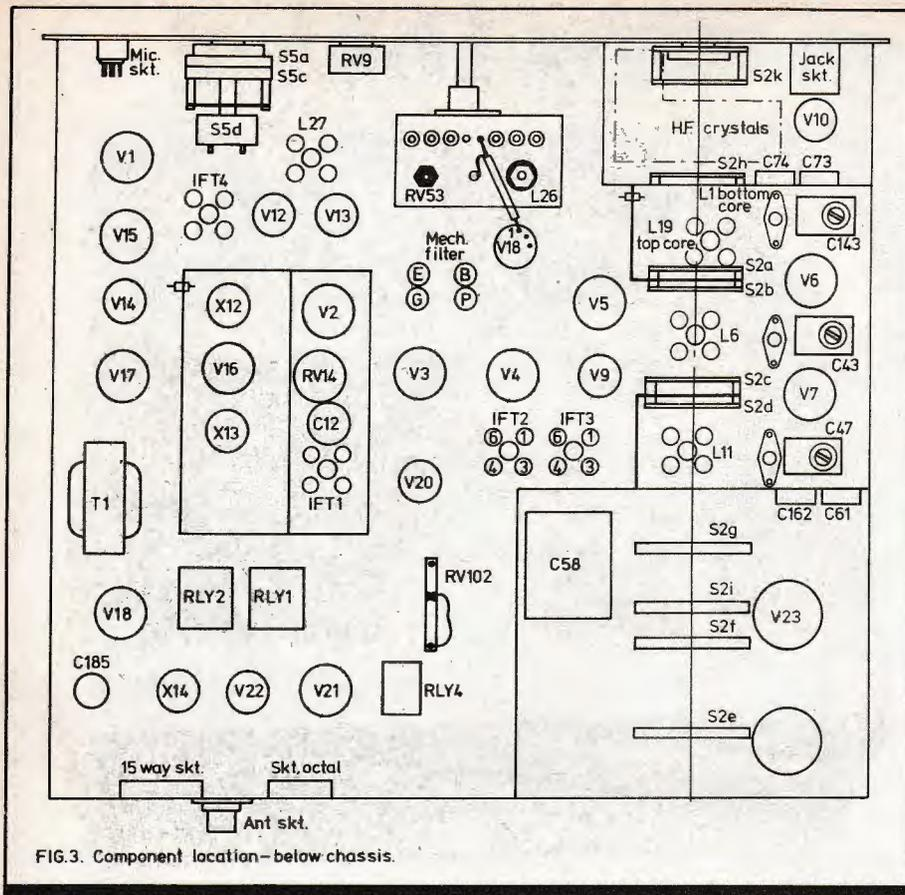

FIG. 3. Component location—below chassis.
3. Reset VFO to 200. Adjust the core of L26, which is on the lower side of the VFO, for zero beat with the calibrator signal. See **Fig. 3** for the position of L26.
5. Set VFO to 100. Switch IRT off and adjust RV53 for zero beat with the calibrator signal. See **Fig. 3** for position of RV53.
2. Connect the swamping tool between pin 4 of IFT2 and chassis (see Fig. 3 for location of IFT2). Adjust lower core of IFT2 for peak on S-meter, reducing input signal if necessary to keep reading below S5. **SWITCH OFF KW2000.**